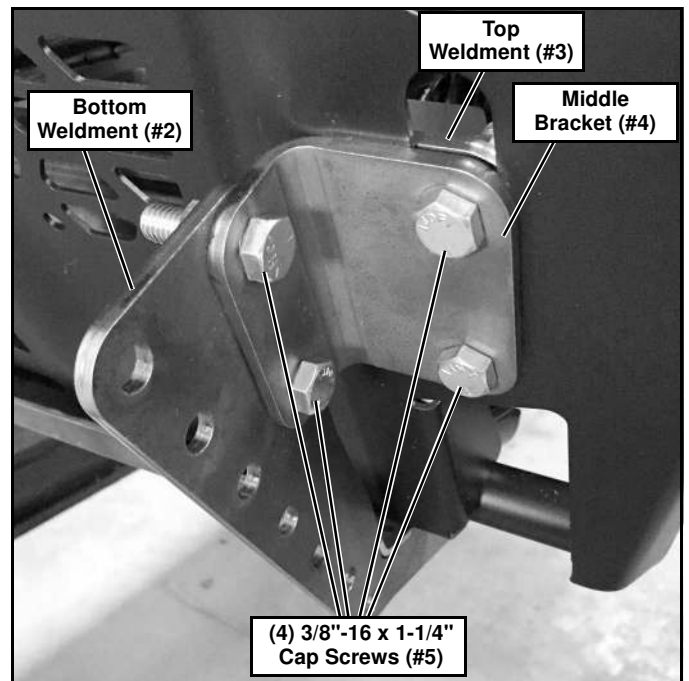

Figure 4
6. On the driver's side, align the holes in the long leg of the Middle Bracket (#4) with the front holes of the Top Weldment (#3). The holes on the short leg align with the holes on the side of the Bottom Weldment (#2) (See Figure 4).
7. Insert (4) 3/8" -16 x 1-1/4" Cap Screws (#5) into the Middle Bracket (#4) and through the Bottom and Top Weldments (#2 & #3). Secure with (4) 3/8"-16 Locknuts (#8) (See Figure 4).